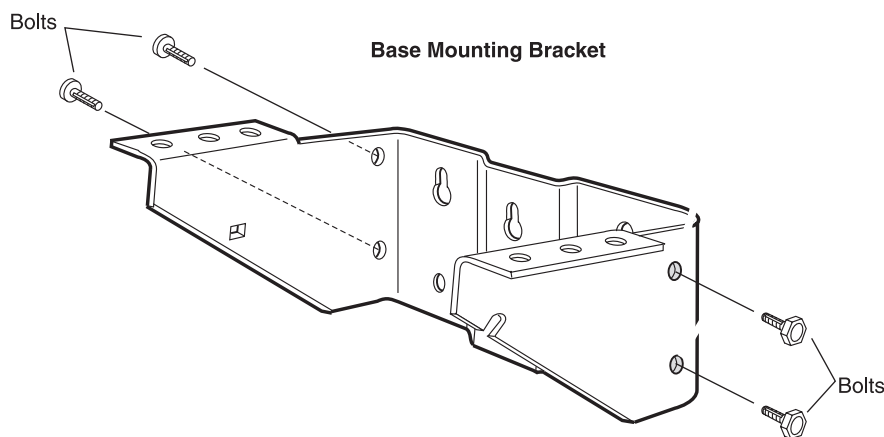

Figure 4. *Mounting Bracket*
The HRE-504 may be mounted in a rack, pole, pedestal, or flat surface using the enclosure mounting bracket assembly. Figure 4 below shows the mounting bracket.
- 2 Remove the mounting bracket from the HRE-504 by removing the four bolts that connect each side plate, as shown in Figure 4 on page 8.
Use the procedure below to mount the enclosure on a pole with a diameter greater than 7 inches (17.78 cm). Figure 4 on page 8 shows the mounting bracket.
- 2 Remove the enclosure base mounting bracket by removing the four bolts that connect each side plate, as shown in Figure 4 on page 8.